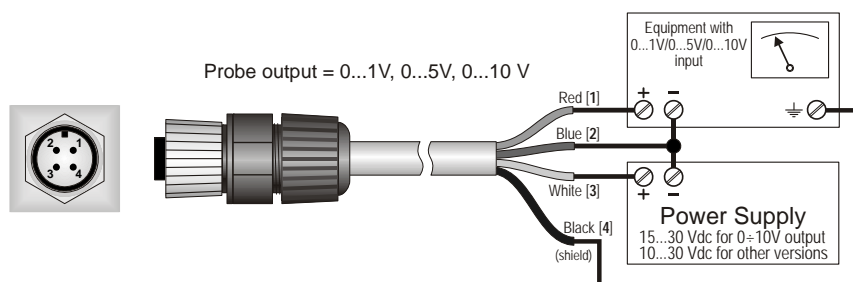

Fig. 8
- LP PYRHE 16 AV should be connected to a power supply device as well as to a multimeter according to the scheme below reported (figure 8); the load resistance for signal readout should be $\geq 100 \text{ K}\Omega$: